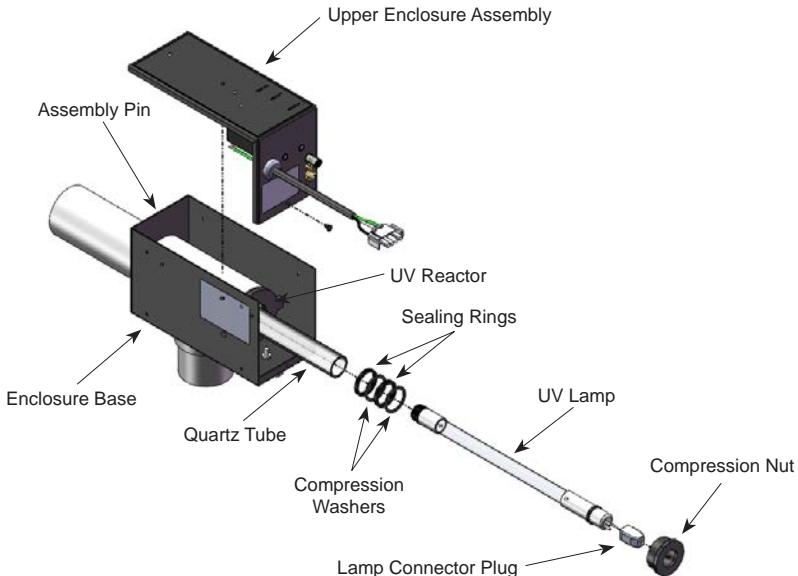

Figure 2: Mast3rPur System Exploded View
a. **UV Lamp Removal – See Figure 2.**